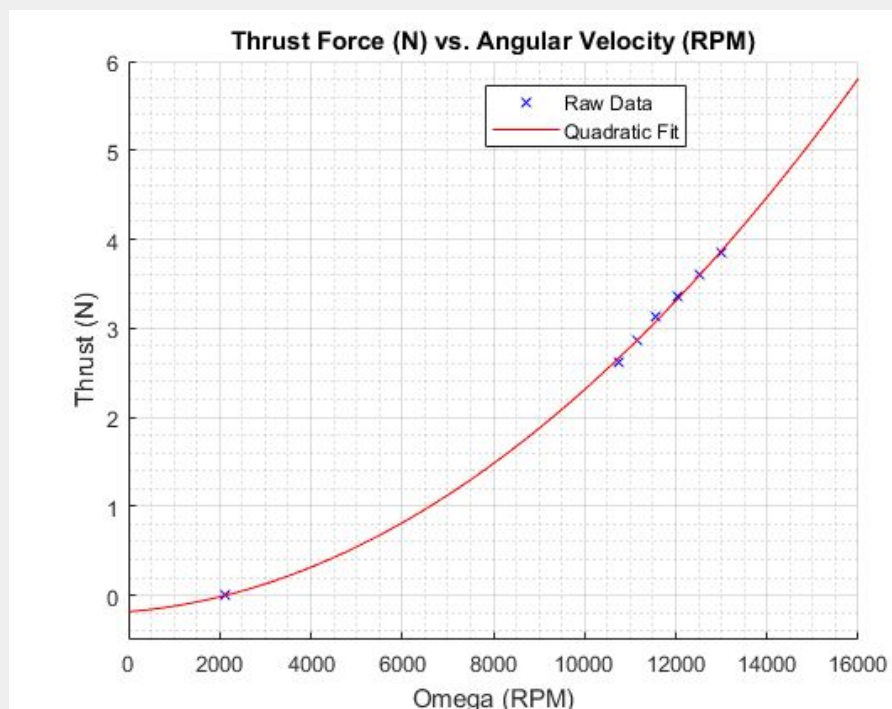

Figure 4: Angular Velocity (RPM) vs. Thrust Generated per Motor (N) - 0 thrust generated at An angular velocity of 2132.6 RPM
Where C_t is the motor force constant in N/RPM² of the motor/propeller combination, ω_f is another angular velocity offset and F_b is the force offset in N. The parameters C_t and F_b are obtained by fitting a quadratic polynomial (Figure 4 quadratic fit) to thrust (N) and angular velocity (RPM) data collected from hover flights of the QDrone with a varying payload (Figure 4 raw data).